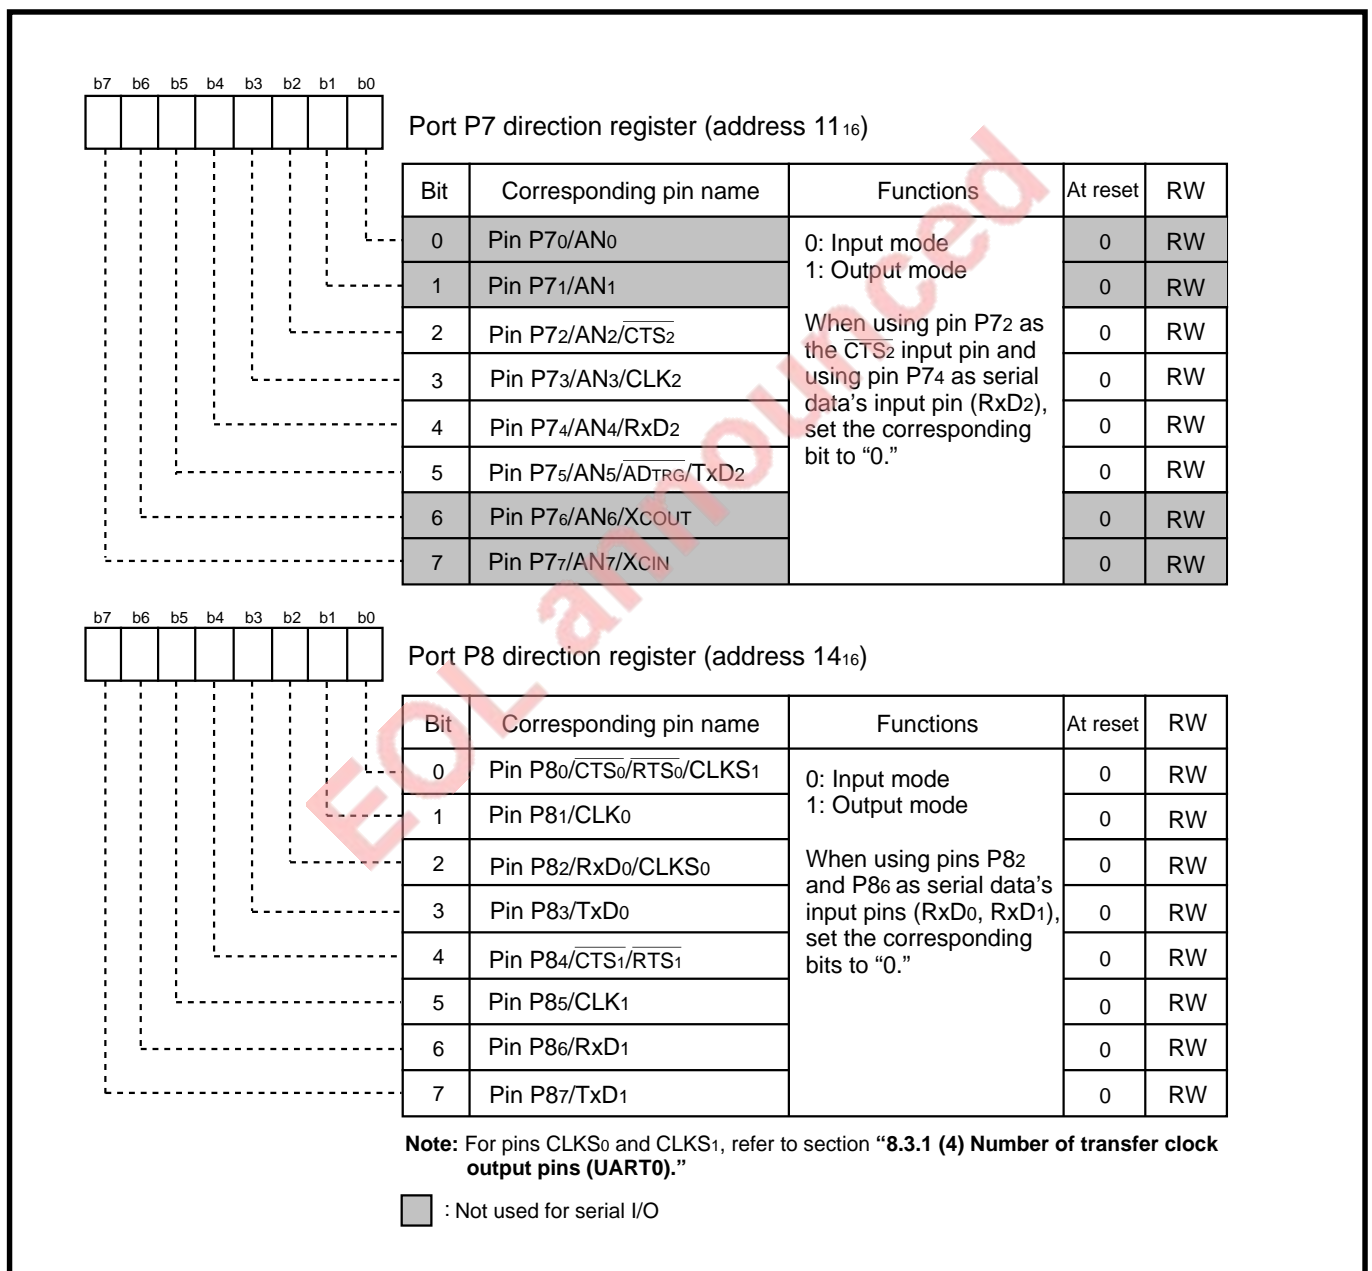

Fig. 8.2.16 Relationship between ports P7, P8 direction register and UARTi’s I/O pins
I/O pins of UARTi are multiplexed with ports P7 and P8. When using the P74, P82 and P86 pins as serial data input pins (RxDi), set the corresponding bits of the ports P7 and P8 direction registers to “0” to set these ports for the input mode. When using the P72 pin as the  $\overline{\text{CTS}}_2$  input pin, set bit 2 of the port P7 direction register to “0” to set this port for the input mode. When using the P73, P75, P80, P81, P83–P85, and P87 pins as UARTi’s I/O pins ( $\overline{\text{CTS}}_i/\overline{\text{RTS}}_i$ , CLKi, TxDi), these pins are forcibly set as the UARTi’s I/O pins, regardless of the ports P7 and P8 direction register’s contents. Also, as for CLKS0 and CLKS1, refer to section “8.3.1 (4) Number of transfer clock output pins (UART0).” Figure 8.2.16 shows the relationship between the ports P7, P8 direction registers and UARTi’s I/O pins.